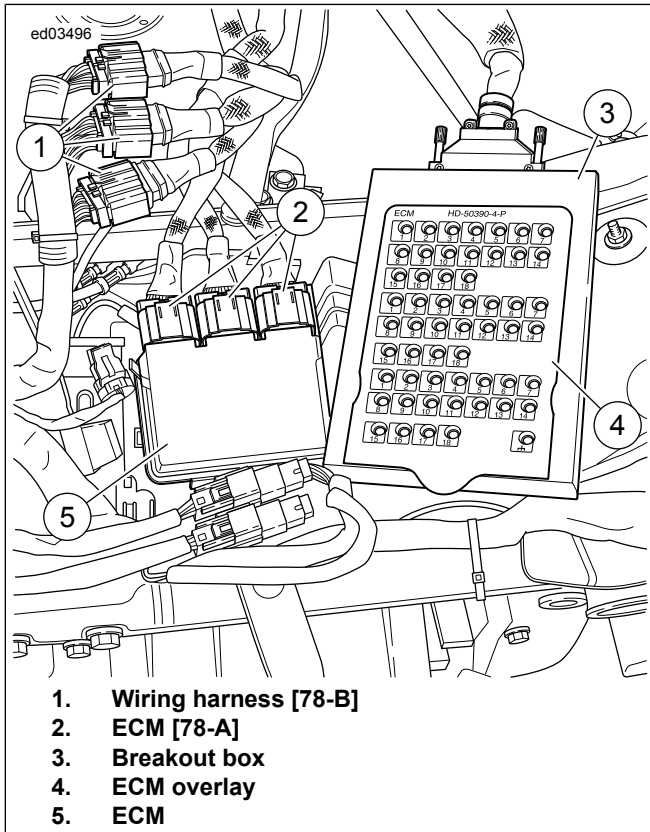

Figure 1-9. ECM Breakout Box Connection
3. See **Figure 1-9**. Connect **BREAKOUT BOX (PART NUMBER: HD-50390-1)** and **ECM CABLE (PART NUMBER: HD-50390-4)** to connectors.